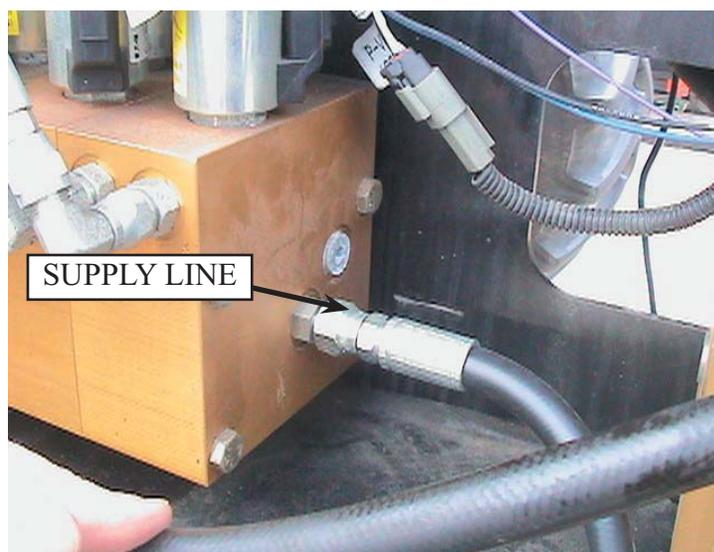

Figure 2.7 -Supply line hook up
Refer to *Figure 2.7* for this step.
1. The supply line connects to the M100 lift valve block as shown in *figure 2.7*. Refer to the Hydraulic Diagram on *page 12* for correct fitting size.